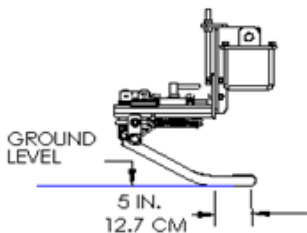

Figure 29: Row Finder Wand Placement
When defoliating, the row finder wands should be adjusted like Figure 29 such that there is 5 in. (12.7 cm) of contact between the ground and row finder wands. Adjustment spring (B), shown in Figure 39, can be adjusted to apply more down pressure to ensure constant contact with the beet row.